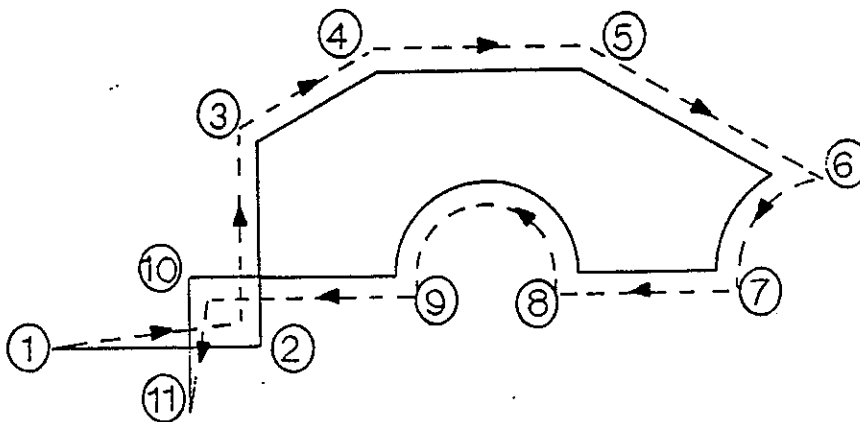

Figure 13.2.6
Looking at Figure 13.2.6, we can see that the tool is on the correct cutter path at point (2) and the next programmed point is at (3). In this Example 13.1, the cutter would have to be brought down at point (2). Similarly, at the end of the program, point 10 to bring the tool up.